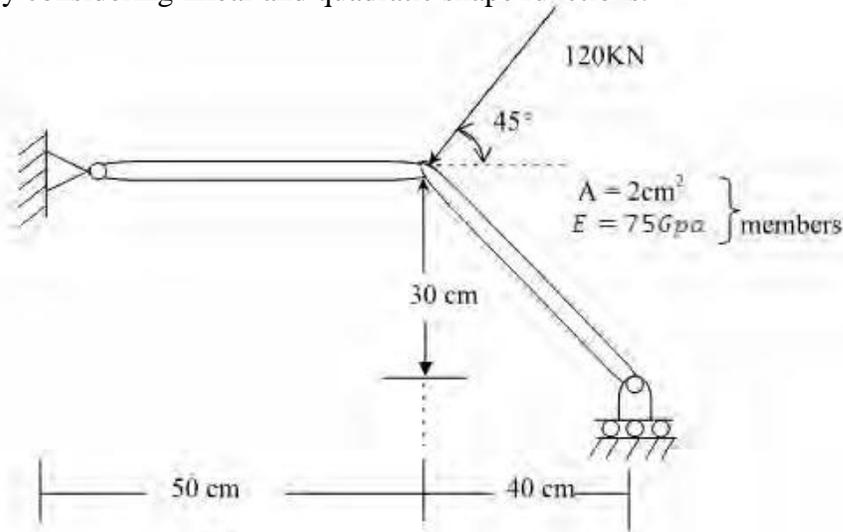

Fig. 2
- b) For the truss shown in fig.2 determine the displacements at point B and stresses in the bars by considering linear and quadratic shape functions.